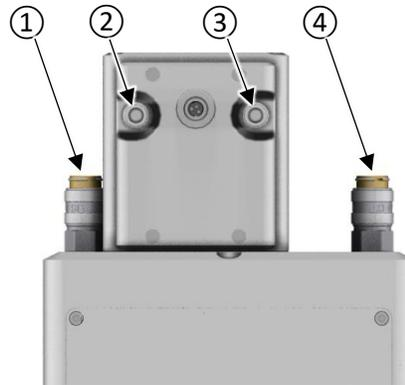

Figure 5: Position of the coolant supply and return connectors
1. Note the flow direction; see Figure 5 on page 30.
Legend to Figure 5